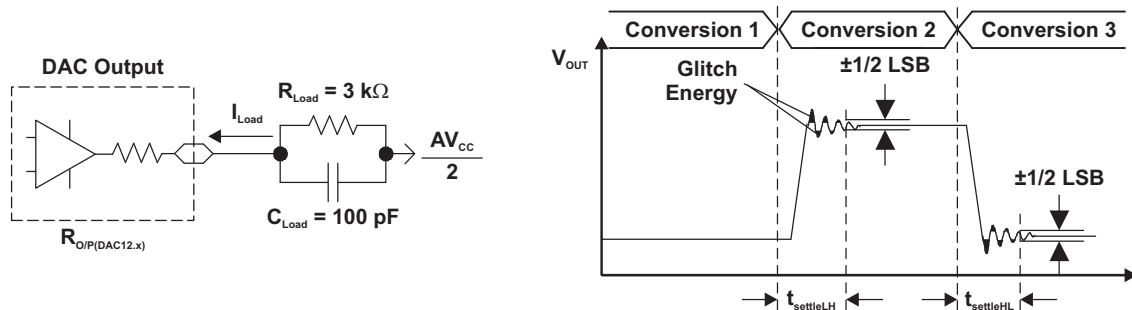
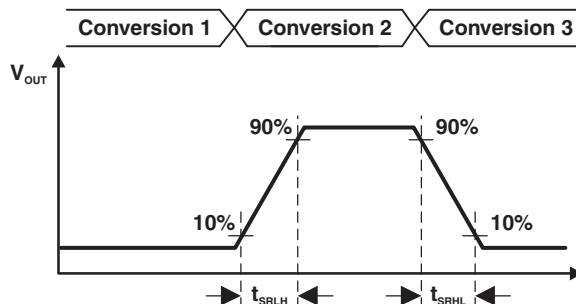

Figure 19. Settling Time and Glitch Energy Testing
Figure 20. Slew Rate Testing
V_{REF} = V_{CC}, DAC12IR = 1 (see Figure 19 and Figure 20), over recommended ranges of supply voltage and operating free-air temperature (unless otherwise noted)
(1) R_{Load} and C_{Load} connected to AV_{SS} (not AV_{CC}/2) in Figure 19.
(2) Slew rate applies to output voltage steps ≥ 200 mV.